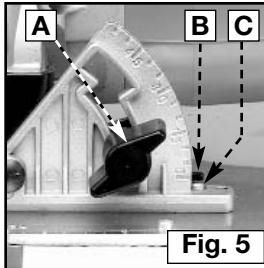
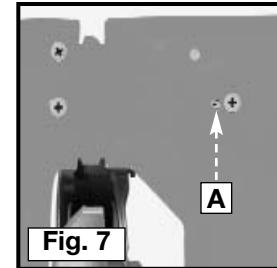

Fig. 5
Fig. 7
1. Loosen the bevel adjustment knob (A) Fig. 5, and position the base for a 0° cut. Confirm that the bevel-stop indicator (B) Fig. 5 is against the 0° stop screw (C).
3. To adjust, loosen the bevel adjustment knob (A) Fig. 5. While keeping the bevel stop indicator (B) Fig. 5 in contact with the stop screw (C), use a screwdriver to turn the adjusting screw (A) Fig. 7 until the blade is square.